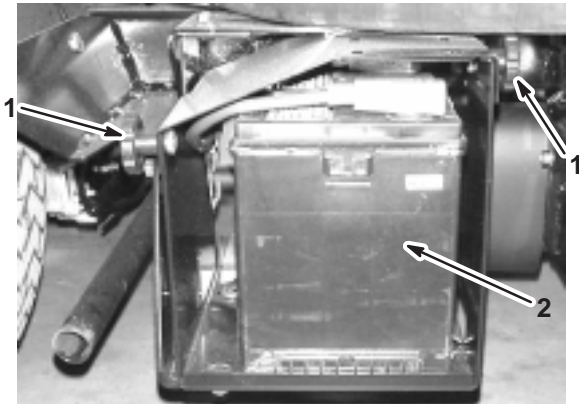

Figure 52
2. Loosen the knobs on the sides of the battery box and remove the battery cover (Fig. 52).
3. Remove the battery retainer and fasteners (Fig. 52).
3. Install the battery retainer and secure it with the fasteners you removed previously (Fig. 52).
4. Install the battery cover and secure it with the 2 knobs (Fig. 52).
1. Loosen the knobs on the sides of the battery box and remove the battery cover (Fig. 52).